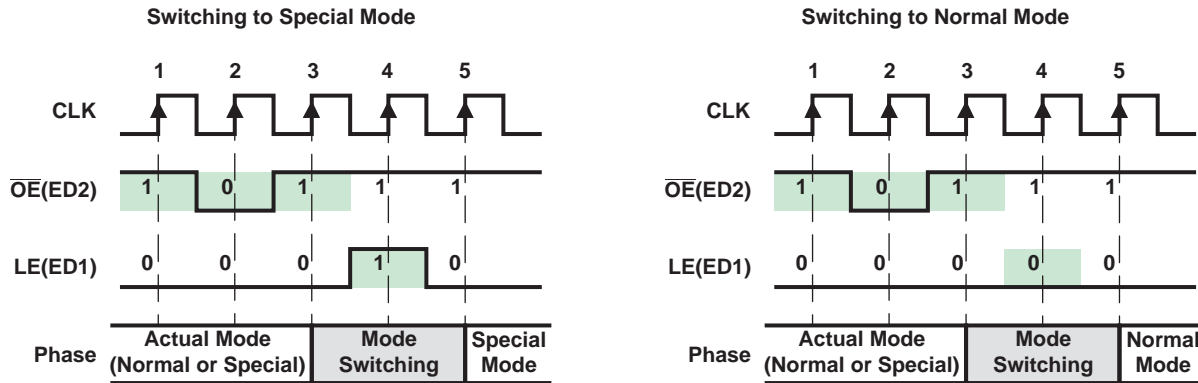

Figure 16. Mode Switching
To switch between its two modes, TLC591x monitors the signal OE(ED2). When an one-clock-wide pulse of OE(ED2) appears, TLC591x enters the two-clock-period transition phase, the Mode Switching phase. After power on, the default operation mode is the Normal Mode (see Figure 16).
As shown in Figure 16, once a one-clock-wide short pulse (101) of  $\overline{OE}(ED2)$  appears, TLC591x enters the Mode Switching phase. At the fourth rising edge of CLK, if LE(ED1) is sampled as voltage high, TLC591x switches to Special Mode; otherwise, it switches to Normal Mode. The signal LE(ED1) between the third and the fifth rising edges of CLK cannot latch any data. Its level is used only to determine into which mode to switch. However, the short pulse of  $\overline{OE}(ED2)$  can still enable the output ports. During mode switching, the serial data can still be transferred through SDI and shifted out from SDO.